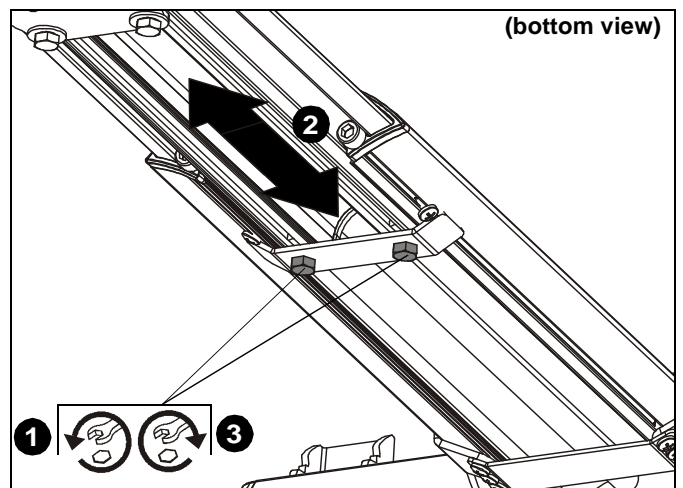

Figure 39
1. Loosen two bolts holding stop bracket in place on underside of short throw projector mount. (See Figure 39)
2. Adjust mount to desired extension length. (See Figure 39)
3. Tighten two bolts holding stop bracket to secure mount in desired position. (See Figure 39)